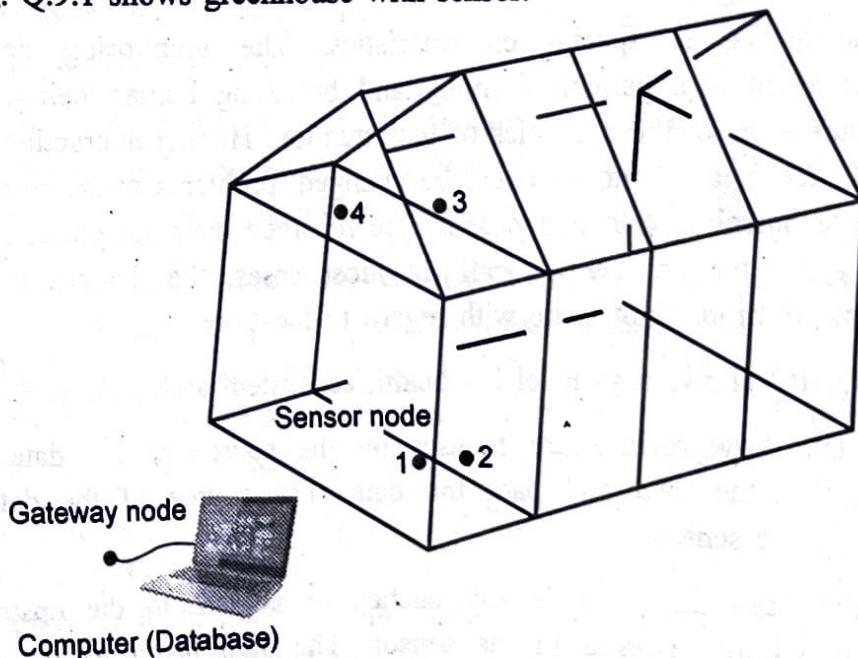

Fig. Q.9.1 Greenhouse with sensor
- Fig. Q.9.1 shows greenhouse with sensor.